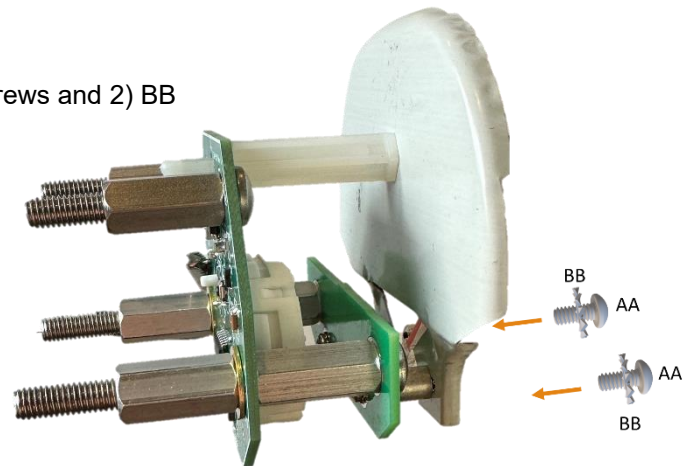

Figure 2 Driver Side View
- Attach original dial plate to tach assembly using 2) AA 2-56 screws and 2) BB lockwashers as shown in Figure 2